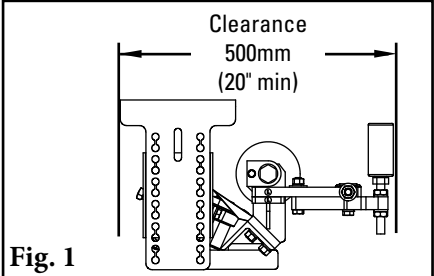

Fig. 1
- Identify an opening of at least 500mm (20") if possible to avoid interference with sensor rollers during installation (Fig. 1).
- If belt is still mistracking too far to one side, bring that sensor roller in toward the center. Make adjustments of 6mm (1/4") at a time (Fig. 1). Do not pinch the belt between the rollers - rollers overall should be 38mm (1-1/2") wider than the belt (Fig. 2).
1. Loosen "A" and "B" bolts, turn "C" bolts to move sensor rollers away from the belt (Fig. 1).